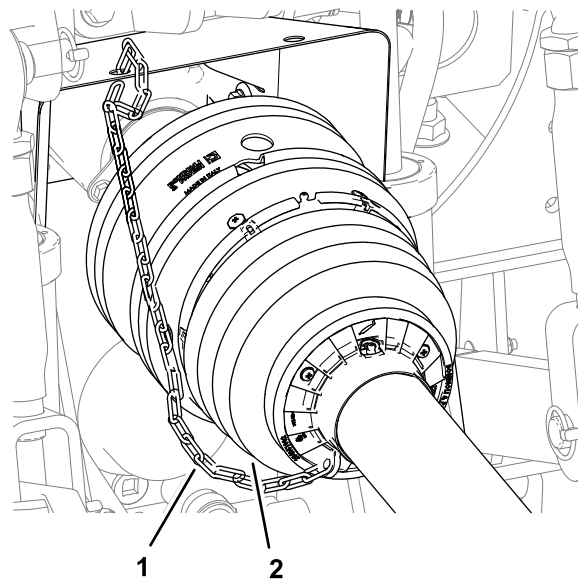

Figure 13
5. Check that the restraint chain is installed between the forward PTO shaft guard and a stationary part on the tow vehicle (Figure 13).